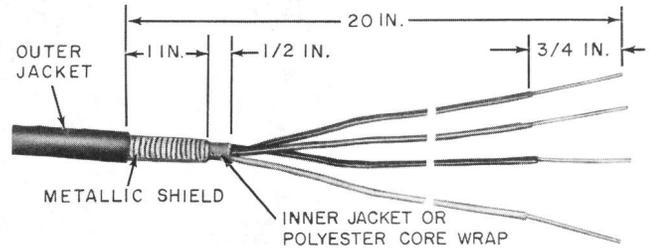

Fig. 14—♦Prepared Service Wire—D Cable Closure♦
5.04 Prepare service wire as illustrated in Fig. 14.